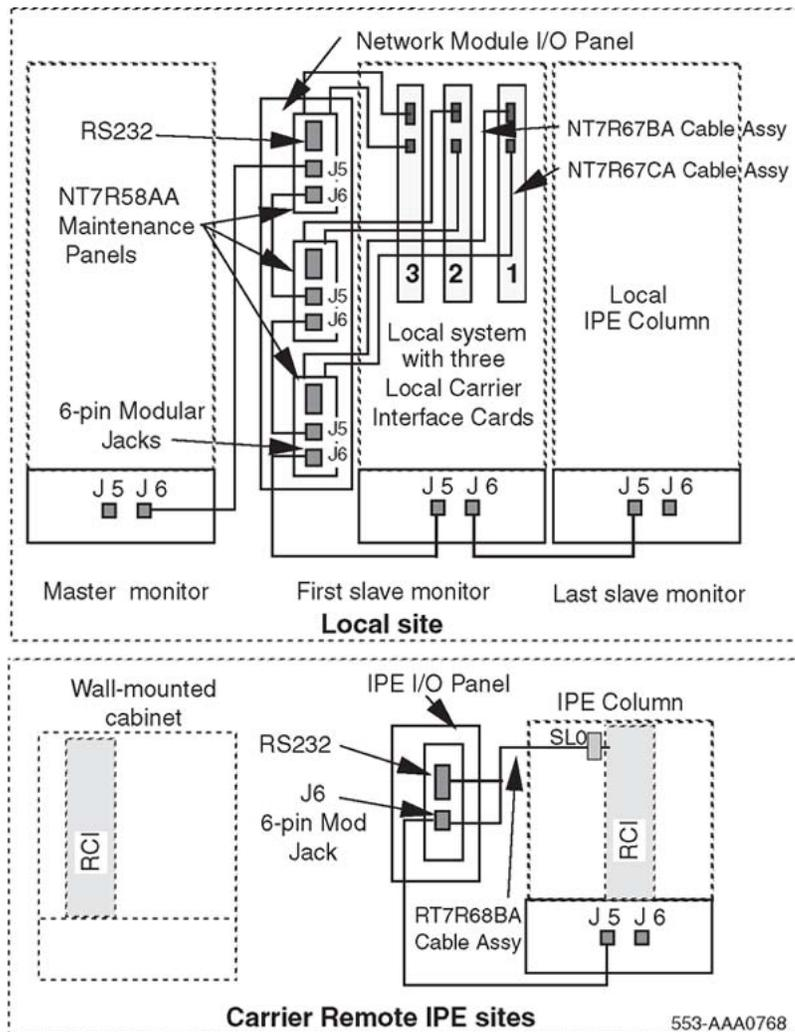

Figure 13: System monitor connections at the local site and the Carrier Remote IPE
To daisy-chain the system monitor cables to multiple columns and multiple NT7R51 Local Carrier Interface cards, refer to Figure 13: System monitor connections at the local site and the Carrier Remote IPE on page 77 and Appendix C, Figure 30: Local site system monitor connection diagram \(single and multiple LCI configuration\) on page 181, and follow the steps in Connecting multiple Local Carrier Interface cards to the system monitor on page 76
1. Starting from the top, as shown in Figure 13: System monitor connections at the local site and the Carrier Remote IPE on page 77, plug the NT8D46AL cable 6-pin modular plug from one NT7R58AA Maintenance Panel assembly 6-pin modular jack J6 into the 6-pin modular jack J5 on the next NT7R58AA Maintenance Panel assembly.
3. Connect J5 modular jack of the top NT7R58AA Maintenance Panel assembly in Figure 13: System monitor connections at the local site and the Carrier Remote IPE on page 77 to the J6 modular jack of the next system monitor towards master system monitor using the NT8D46AL modular cable.
Figure 13: System monitor connections at the local site and the Carrier Remote IPE on page 77 shows system monitor daisy-chain connections at local and Carrier Remote IPE